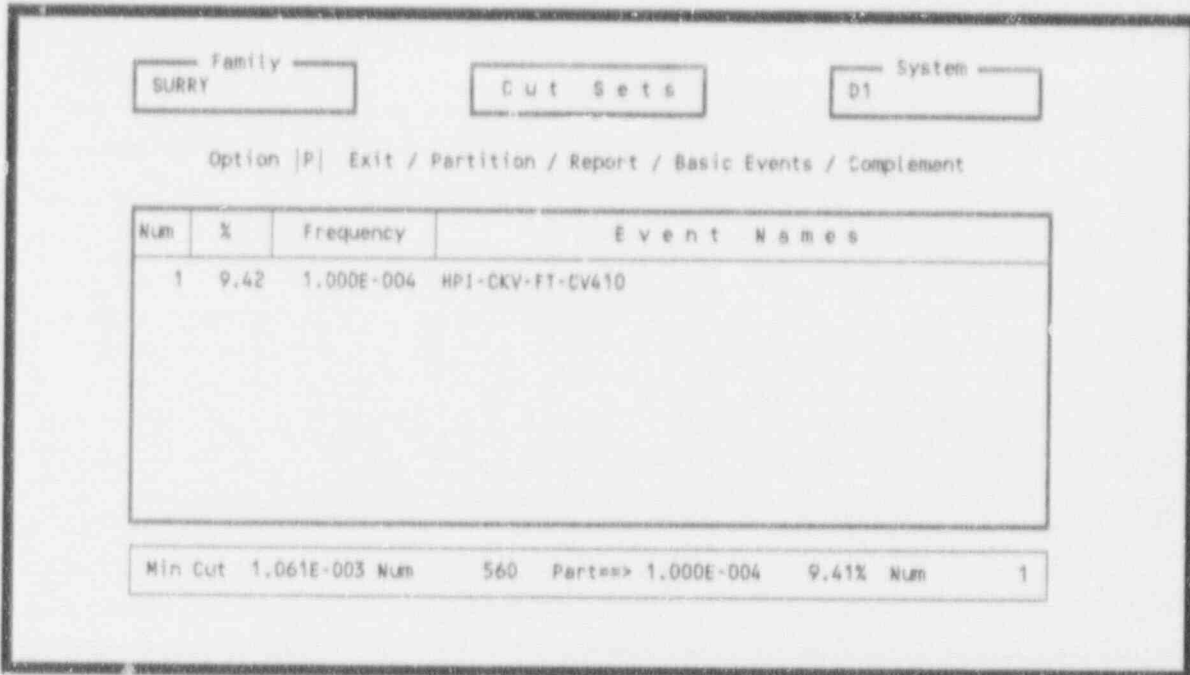
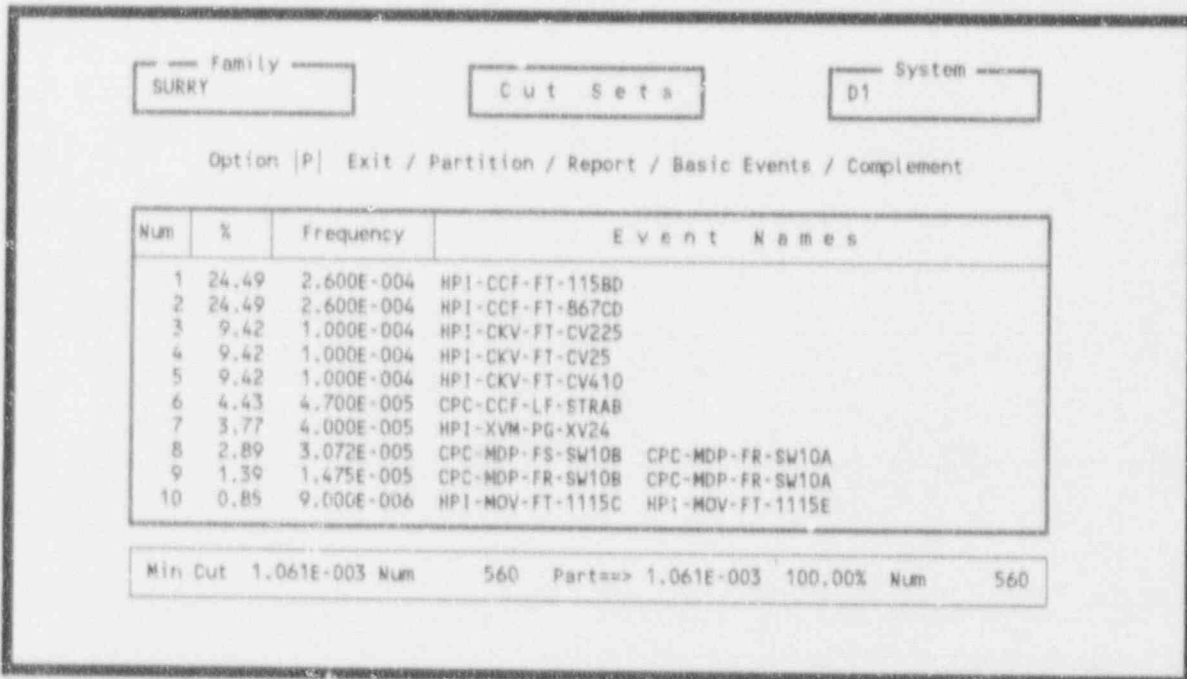

Figure 53. Using Include to partition a system.
Figure 54. Using EXclude to partition a system.
**Include:** To establish a partition via this option, type  in the option field, then fill in the entry fields on the screen that are to be used to qualify the events that may be used in the new partition and press <Enter>. The application proceeds to qualify the events and when complete will update the Number of Qualified Events field that appears at the top of the screen. In this case, qualified events are those events that contain the included attributes. Returning to the Cut Sets screen via the Exit option, you will see that the system cut set list contains only those cut sets that are made up of qualified events. Figure 53 was the result of specifying the event name "HPI-CKV-FT-CV410" for the "Include" option. If the system cut sets do not contain any of the qualified events, then the message **No cutsets qualify** is displayed at the bottom of the screen.
**EXclude:** To establish a partition via this option, type <X> in the option field, then fill in the entry fields on the screen that are to be used to remove events from the list of qualified events. The application proceeds to remove the events. When complete, the Number of Qualified Events field that appears at the top of the screen will be updated accordingly. Returning to the Cut Sets screen via the Exit option you will see that the system cut set list contains only those cut sets that are made up of qualified events. Figure 54 was the result of specifying the event name "HPI-CKV-FT-CV410" for the "EXclude" option. If the system cut sets do not contain any of the qualified events, then the message **No cutsets qualify** is displayed at the bottom of the screen.
**Reset:** This option sets all family events to qualified. This, of course, removes all partitioning from the current system cut sets. To activate this option, type <R> in the option field and press <Enter>. (Assume the partition shown in Figure 53). Type <R> in the option field and press <Enter>. The original cut set list is the result, as shown in Figure 51.
**3.4.1.3.5 Complement**—The Complement option operates on the current system partition. Its function is to set all currently qualified cut sets to unqualified. This allows you to split a system into two partitions and then switch between the two partitions to view the results. To invoke this option, type <C> in the option field, and press <Enter>. (Assume the partition shown in Figure 53). Type <C> and press <Enter>. The resulting display is shown in Figure 54.